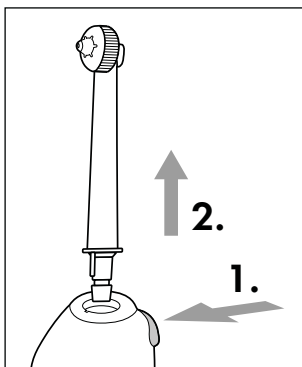

Fig. 3
- ◆ To remove the nozzle attachment **2**, press the release button **10** on the hand unit **4** and then pull the nozzle attachment **2** out of the hand unit **4** (see Fig. 3).